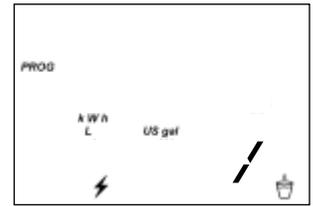

Fig. 21
- a. Using  or , enter desired volume measurement units (**L** or **US gal**) (Fig. 21).